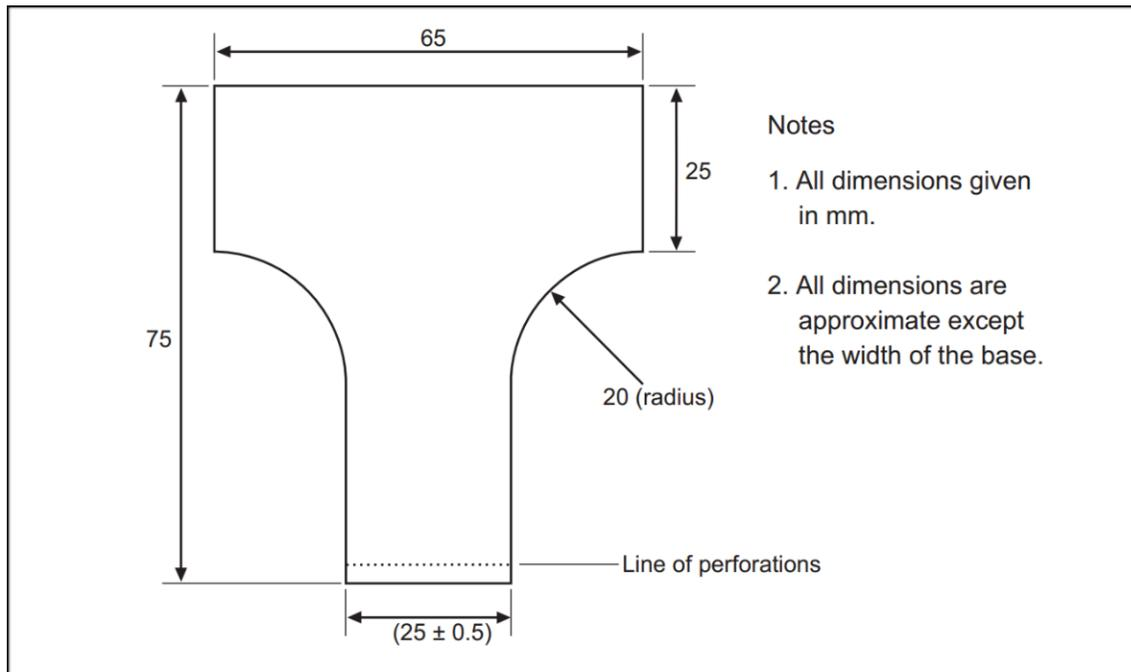

Figure 2: Specimen Dimensions
- 6 test specimens (see figure 2 for specimen dimensions) are cut from the material to be tested in both directions: 3 length and 3 width.